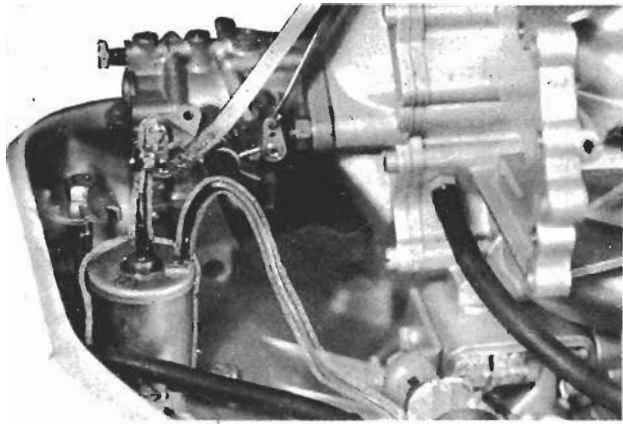

FIGURE 2
3. Install green choke lead wire to the terminal on top of the choke solenoid, as shown in FIG. 2.